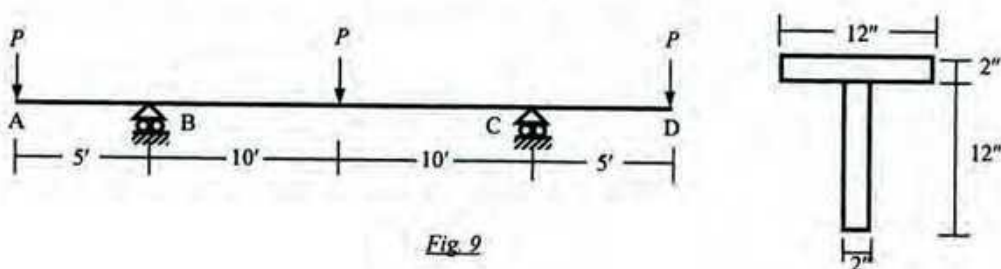

Fig. 9
9. Use bending moment diagram to calculate the force P needed to develop plastic hinge mechanism in the beam ABCD loaded as shown in *Fig. 9* [Given: $\sigma_{yp} = 40 \text{ ksi}$].